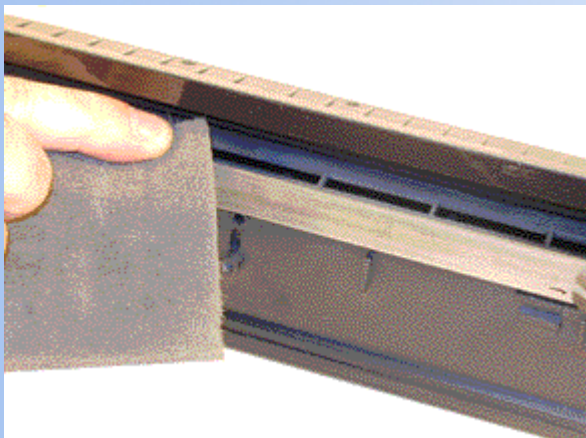

FIGURE 16
13. Clean the working edge of the doctor blade with a Scotch-Brite pad and alcohol. See Figure 16